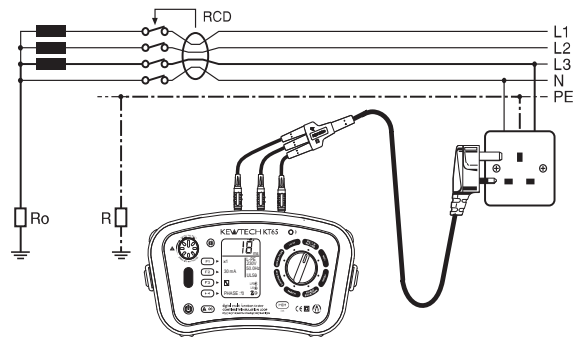

Fig.38
2. Connect the test leads to the circuit to be tested. (Fig.38, 39, 40)